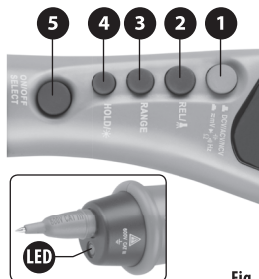

Fig. 2
2. To measure direct-current voltage, repeatedly press the function selection button (fig. 2, position 1) until appears on the display.
3. To measure alternating-current voltage, repeatedly press the **Select/On&Off** button (fig. 2, position 5) until the AC symbol is shown the display; to measure direct-current voltage the symbol DC must be shown on the display.
2. Repeatedly press the function selection button (fig. 2, position 1) until appears on the display.
3. Repeatedly press the **ON/OFF Select** button (fig. 2, position 5) until the symbol Ω is shown on the display. It may be necessary to use the **RANGE** button (fig. 2, position 3) to change the range of the resistance units so that the display shows a value, otherwise „OL“ will be shown on the display.
3. Repeatedly press the **Select/On&Off** button (fig. 2, position 5) until the symbol Ω and is shown on the display.
3. Repeatedly press the **Select/On&Off** button (fig. 2, position 5) until the symbol of a diode is shown on the display.
3. Repeatedly press the **Select/On&Off** button (fig. 2, position 5) until the symbol is shown on the display.
3. Repeatedly press the **Select/On&Off** button (fig. 2, position 5) until the symbol **Hz** for frequency measurement is shown on the display.